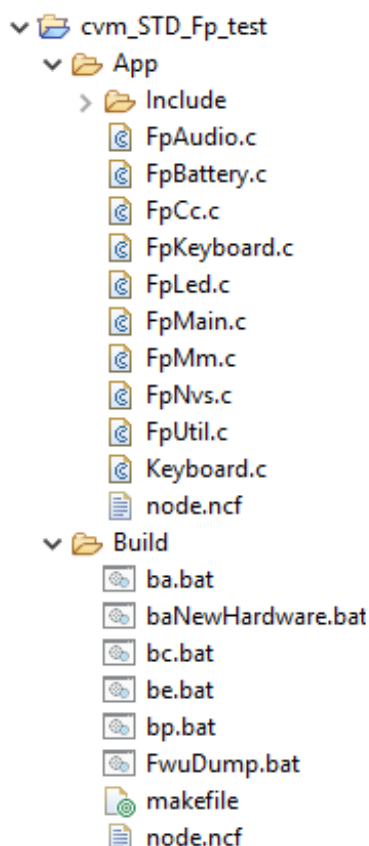

Figure 25: Project Structure (Voice Data Stack)
- The project structure should look like Figure 25. Make sure that the **Build** folder has all .bat files (bc, be, and bp).